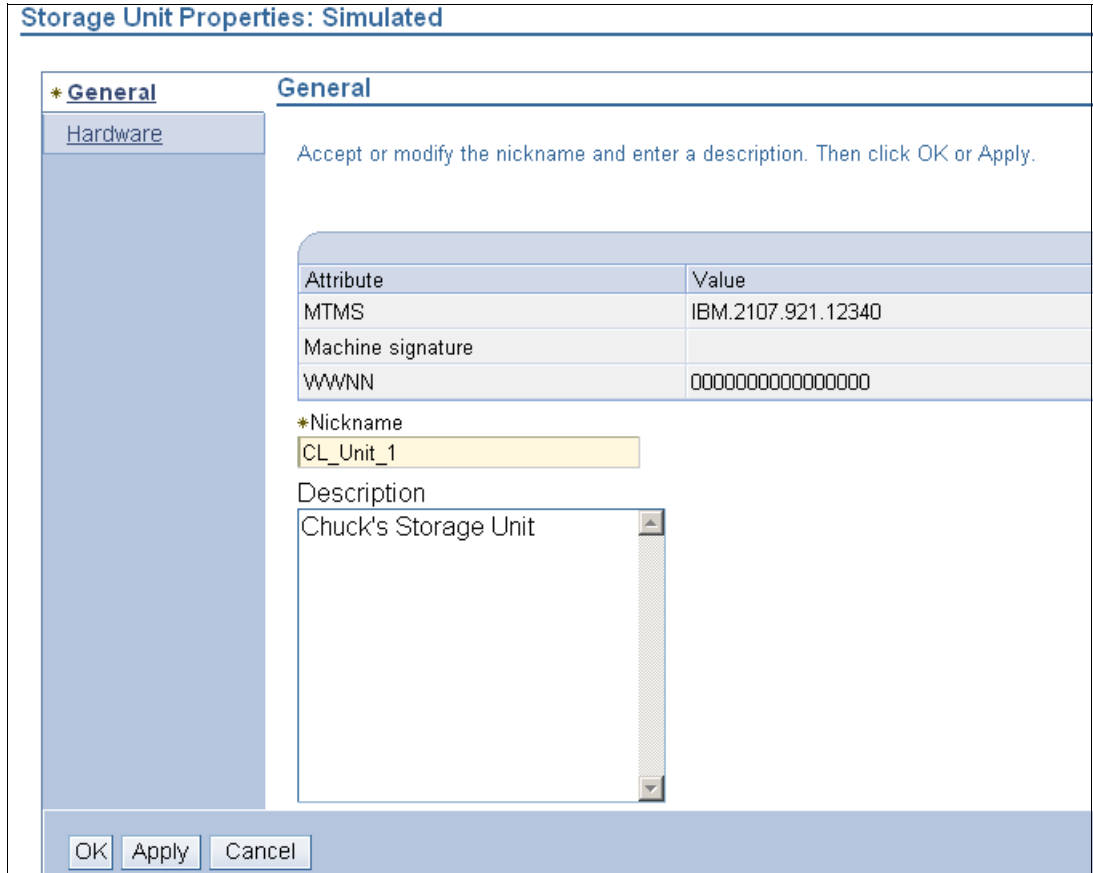

Figure 10-49 View of the WWNN in the General panel
5. Click **Go**. The General panel shown in Figure 10-49 on page 229 will be returned.